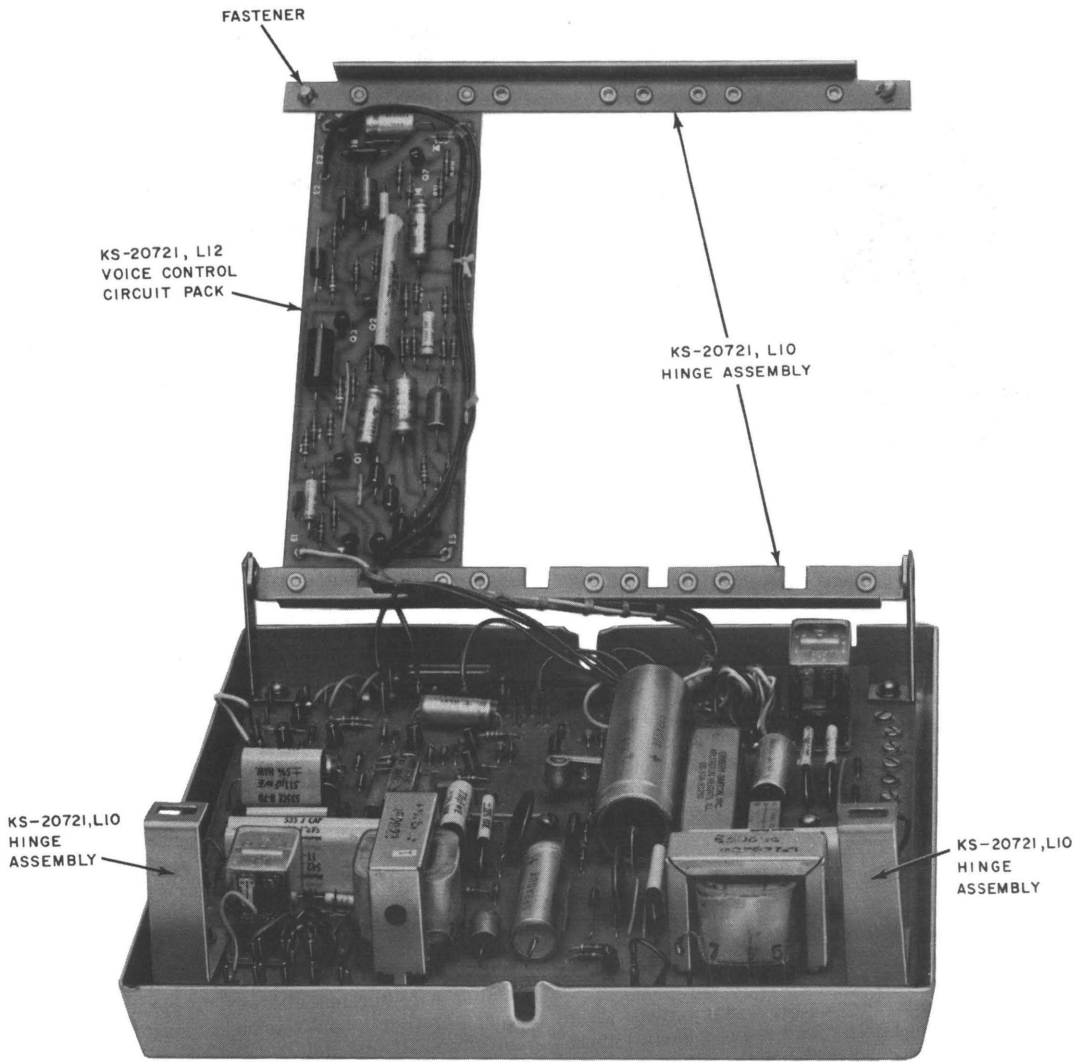
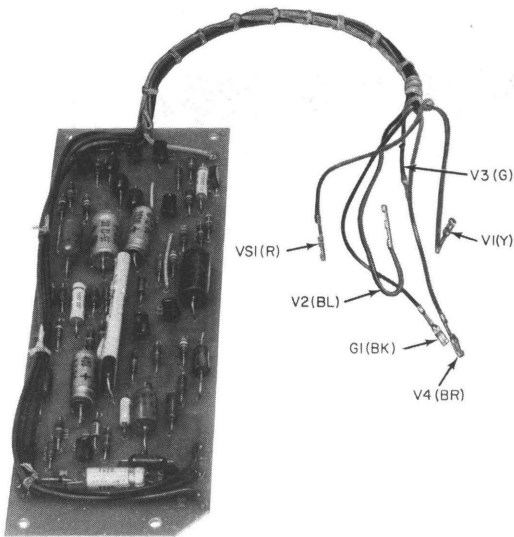

Fig. 3—KS-20721, List 2 Station Coupler
Fig. 4—KS-20721, List 12 Voice Control
**2.03** The KS-20721, List 2 station coupler (Fig. 3) consists of a KS-20721, List 1 station coupler with a KS-20721, List 10 hinge assembly and KS-20721, List 12 voice control, factory installed.
**2.04** The List 12 voice control (Fig. 4) consists of a speech detector and a 13-second timer that is kept reset by pulses from the speech detector when voice signals are present on the telephone line. In the absence of speech signals, the timer will time out in approximately 13 seconds disconnecting the coupler from the line. However, the CO receiver off-hook tone generator, if applied to the line, will prevent operation of the List 12 voice control. An automatic volume limited (AVL) amplifier is part of the speech detector and provides a relatively constant  $-5$  dBm speech level at 600 ohms to leads AVL and ground. The customer may use this AVL amplifier to drive a tape recorder, paging system, or other equipment. ⚡The List 12 voice control is provided only with PCA RDY to provide the features of the Y option (see Tables A and C).⚡
- (1) Remove the cover from the station coupler using the KS-19192, List 1 tool or screwdriver.
- (2) Attach KS-20721, List 10 hinge assembly to the four corner screws mounting the List 1 board. Refer to Fig. 3.
- (3) The installer can mount the circuit pack on the internal mounting frame formed by the hinge assembly. Place board in correct position on frame (refer to Fig. 3 or cover label) and secure with four corner mounting screws furnished with circuit pack.
- (4) Connect the flexible jumper leads on List 1 board to provide the required options called for in Table A by using the connecting information given in Table B (see 3.04).
- (5) Provide option Y by plugging the connecting leads from the List 12 board into corresponding terminals on List 1 board per Table B and Fig. 4. Dress leads to avoid interference with boards and cover and secure leads with cable clamp provided.
- (6) Close hinge assembly and fasten the two top corner fasteners; replace cover.